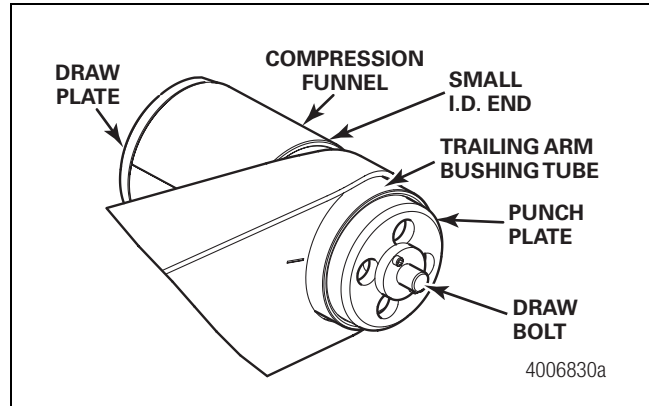

Figure 3
9. Apply a light coat of lubricant to the inside diameter of the compression funnel. Place the smaller end of the compression funnel onto the trailing arm bushing tube. Figure 3.
11. Insert the draw bolt, flat washers and thrust bearing through the draw plate and the multi-functional bushing. Figure 3.
12. Thread the punch plate onto the draw bolt until it rests against the bushing to be removed. Figure 3.